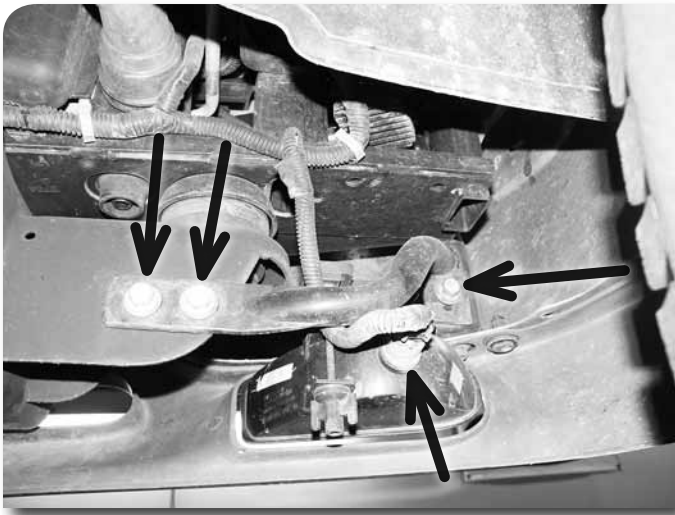

Figure 8
11. If equipped, disconnect the fog light wires from the light housings mounted in the front bumper **Figure 8**.
12. Remove the bolt (on each side) mounting the outside bumper support to the bumper. Remove the bolts mounting the support to the frame and remove the bumper **Figure 8**. Save the supports and hardware.